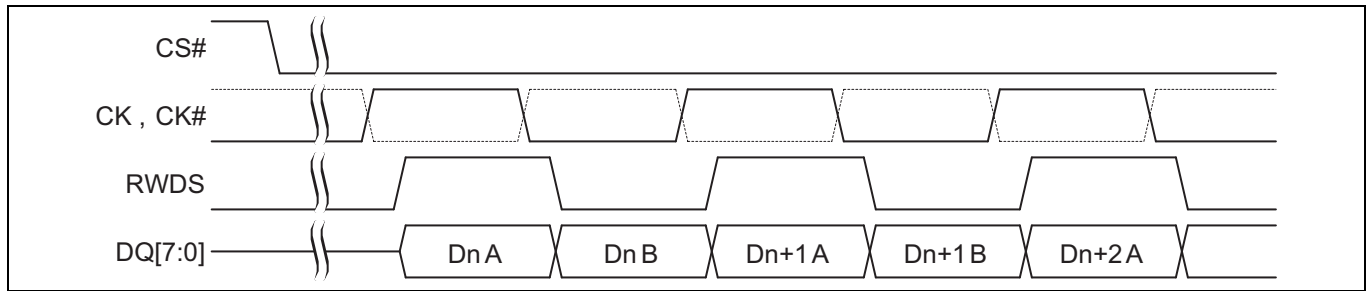

Figure 7 Data placement during a read transaction^[14-18]
- 14. **Figure 7** shows a portion of a Read transaction on the HYPERBUS™. CK# of differential clock is shown as dashed line waveform.